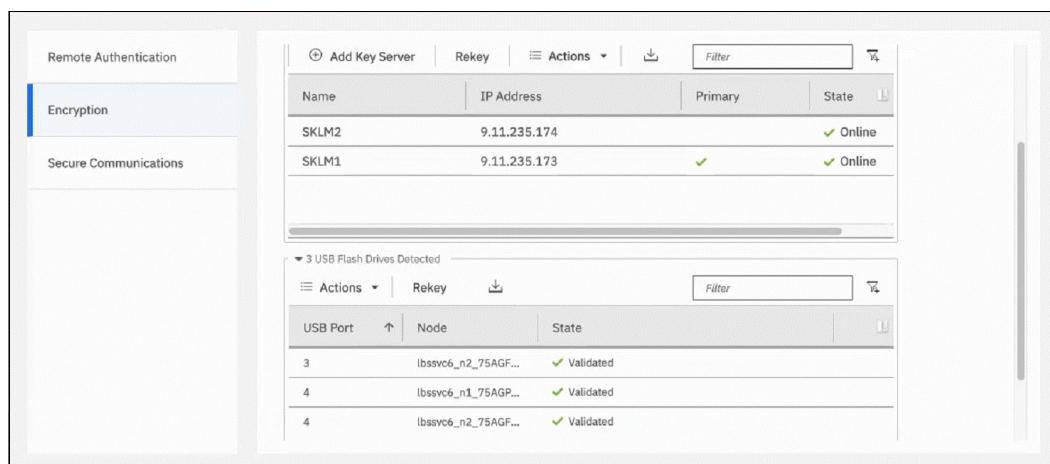

Figure 12-53 Example of encryption enabled with two key providers available
3. You can confirm that encryption is enabled and verify which key providers are in use by selecting **Settings** → **Security** → **Encryption**, as shown in Figure 12-53. Notice the **Online** state of the key servers and the **Validated** state of the USB ports where USB flash drives are inserted to make sure that they are correctly configured.